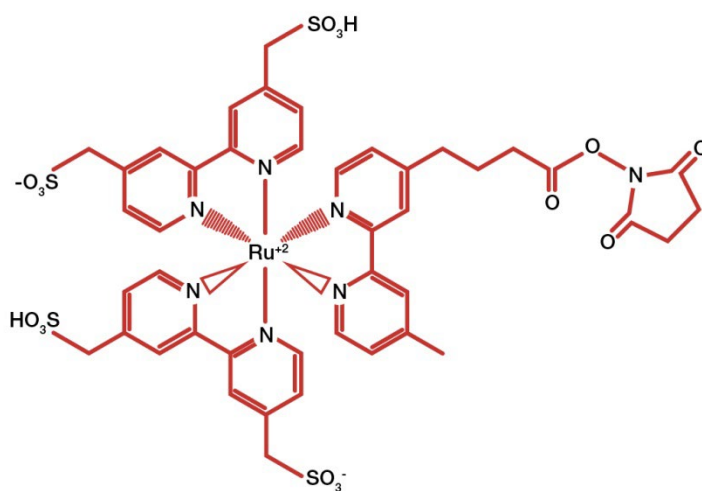

Figure 1. MSD GOLD SULFO-TAG NHS-Ester
This protocol details the conjugation procedure for proteins of molecular weight (MW) > 40,000 Daltons (Da) using MSD GOLD SULFO-TAG NHS-Ester label. The straightforward procedure involves an optional buffer exchange step, a 2-hour incubation step, and a mandatory buffer exchange step to quickly isolate the conjugated protein using a spin column. MSD GOLD SULFO-TAG NHS-Ester (Figure 1) is an amine reactive, N-hydroxysuccinimide ester that readily couples to primary amine groups of proteins under mildly basic conditions to form a stable amide bond.